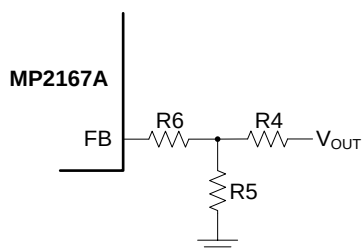

Figure 3: Feedback Network
The external resistor divider connected to FB sets V_{OUT} (see Figure 3). The feedback resistor ($R4$) must account for both stability and dynamic response, so it cannot be too large or too small. $R4$ is estimated to be 100k Ω . $R5$ can be estimated with (2):
It is highly recommended to use a T-type feedback network (see Figure 3).